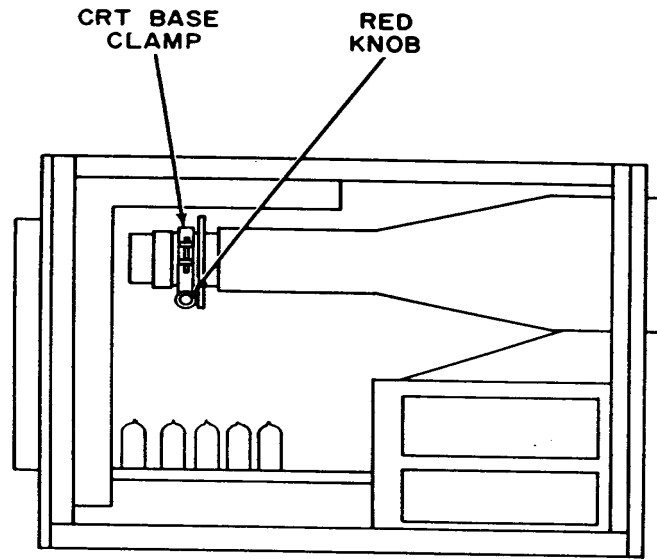

Figure 3. Oscilloscope - left side new (545A), top view (RM45A).
(1) Turn red knob located on crt base clamp (fig. 3) until trace is aligned with center graticule line over entire length of crt.